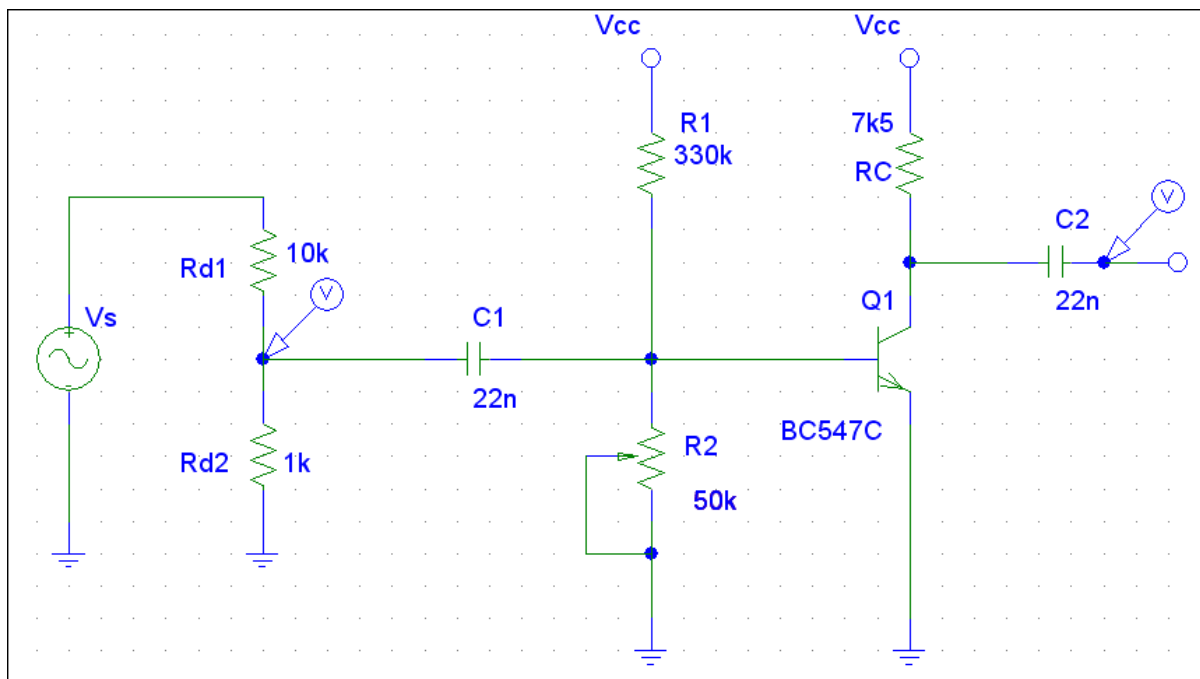

Fig. 2 Common-emitter amplifier with bipolar junction transistor
Common-emitter amplifier circuit with single bipolar junction transistor is presented in fig. 2. Resistors  $R_{d1}$  and  $R_{d2}$  work as an input voltage divider and they are not a part of the amplifier. Resistors  $R_C$ ,  $R_1$  and  $R_2$  are used for the polarization of the transistor and for setting the point of work.
1. Solder the circuit illustrated in fig. 2.
6. Set the oscilloscope window to observe the input and output voltage  $V_{IN}$  and  $V_{OUT}$ . Set the cursors to calculate the amplification  $A_v$  of the circuit from fig. 2.